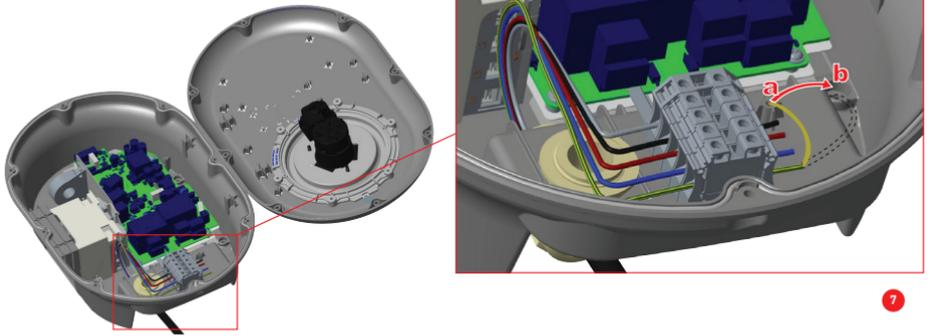

Figure-8
- 7- In case you mount the charging station to conductive metal surface, you can make ground connection via "right-bottom" screw using Earth extension cable as shown in figure-8. To make the grounding to the metal surface, you need to disassemble the grounding cable and move it from position "a" to position "b" as shown in figure-8. To assemble the grounding cable to position "b", the plastic rubber and M6x30 screw which are inside the artwork package should be used and the right-down screw to install the charger to the metal surface should be this M6x30 screw.